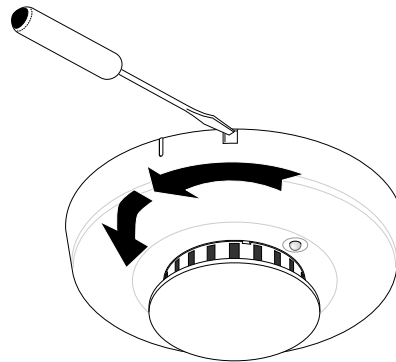

Figure 8. Unlocking the detector
**To remove the detector from the mounting base when the detector/base lock is used**, insert a small screwdriver into the locking tab slot on the side of the base and press in while simultaneously turning the detector counterclockwise 15 degrees. See Figure 8.